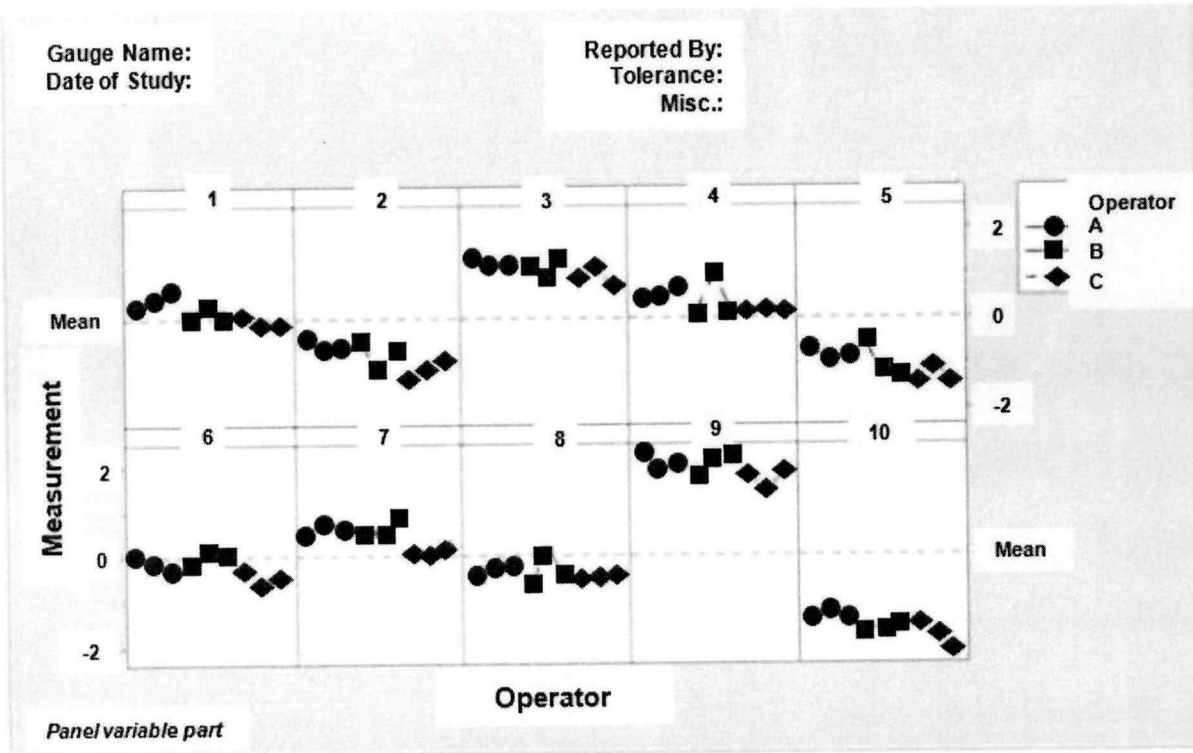

Figure Q4(e): Gauge run chart
- (d) Investigate **TWO (2)** benefits of gauge reproducibility and repeatability (GR&R) in measurement system. (4 marks)
- (e) **Figure Q4(e)** shows a gauge run chart of three operators (operator A, B, C) measuring ten parts, three time each. Produce **THREE (3)** points of interpretation of the chart. (6 marks)
- (b) Produce a complete list of **FOUR (4)** basic characteristics of plug gauge. (4 marks)
- (c) Surface metrology refers to the geometry and texture of surface, such as roughness, waviness, and roundness. Discover **TWO (2)** points of differences in surface texture affects the selection of material in certain application. (4 marks)
- (d) Produce a complete list of **FOUR (4)** features of stylus in measuring surface texture. (8 marks)